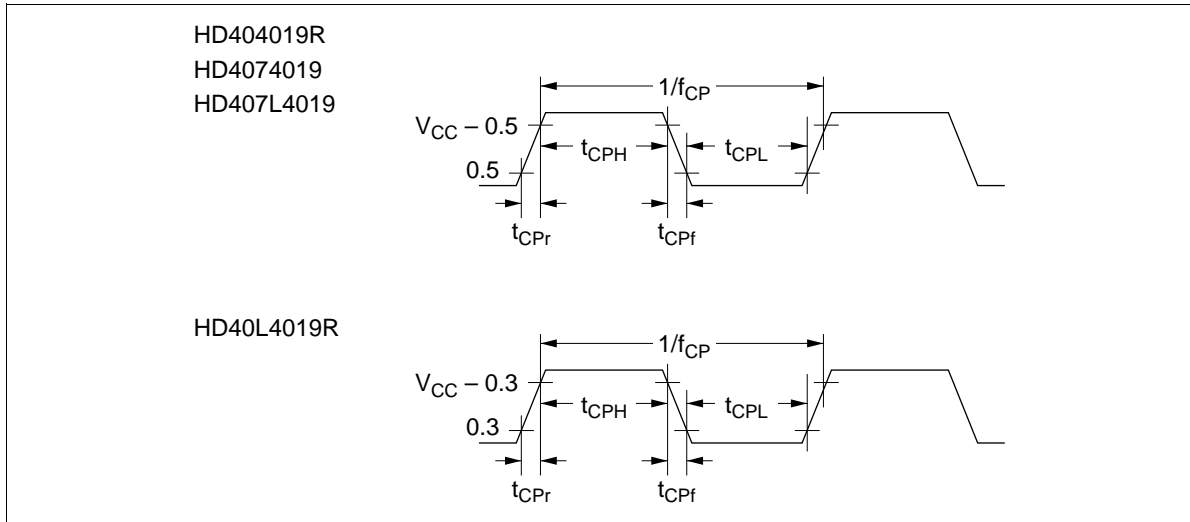

Figure 26 Oscillator Timing
Notes: 1. The oscillator stabilization time is the period from when  $V_{CC}$  reaches its minimum allowable voltage (HD404019R/HD40L4019R: 3.5 V, HD4074019: 4.5 V, HD407L4019: 3.0 V (3.5 V when  $V_{CC} = 3.5\text{ V to }6.0\text{ V}$ )) at power-on until when the oscillator stabilizes, or after RESET goes high by MCU reset to quit stop mode. At power-on or when recovering from stop mode, apply the RESET input for more than  $t_{RC}$  to meet the necessary time for oscillator stabilization. When using a crystal or ceramic oscillator, consult with the crystal oscillator manufacturer since the oscillator stabilization time depends on the circuit constants and stray capacitance. (See figure 26.)
- Notes: 1. See figure 26.